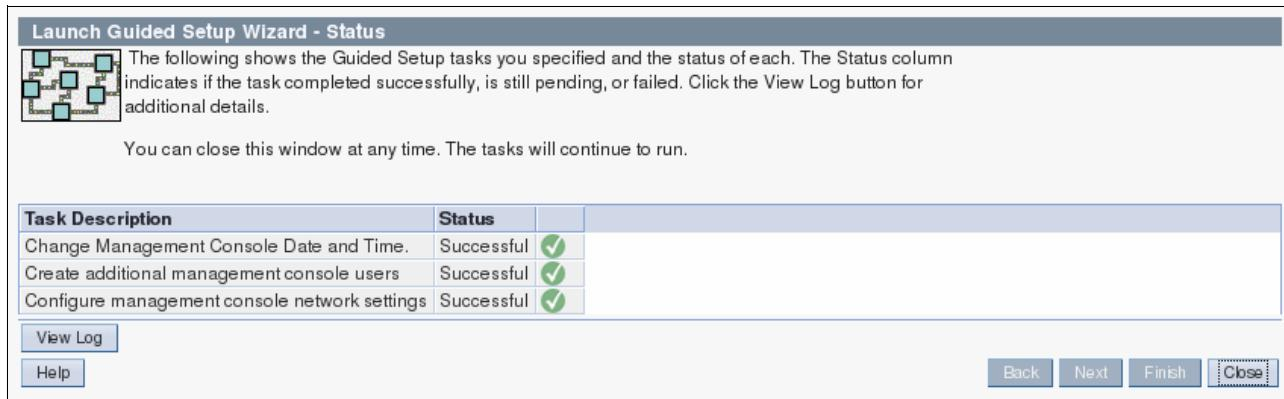

Figure 3-105 Status panel
34. The Status panel (Figure 3-105) lists the successful tasks. Click **Close**.